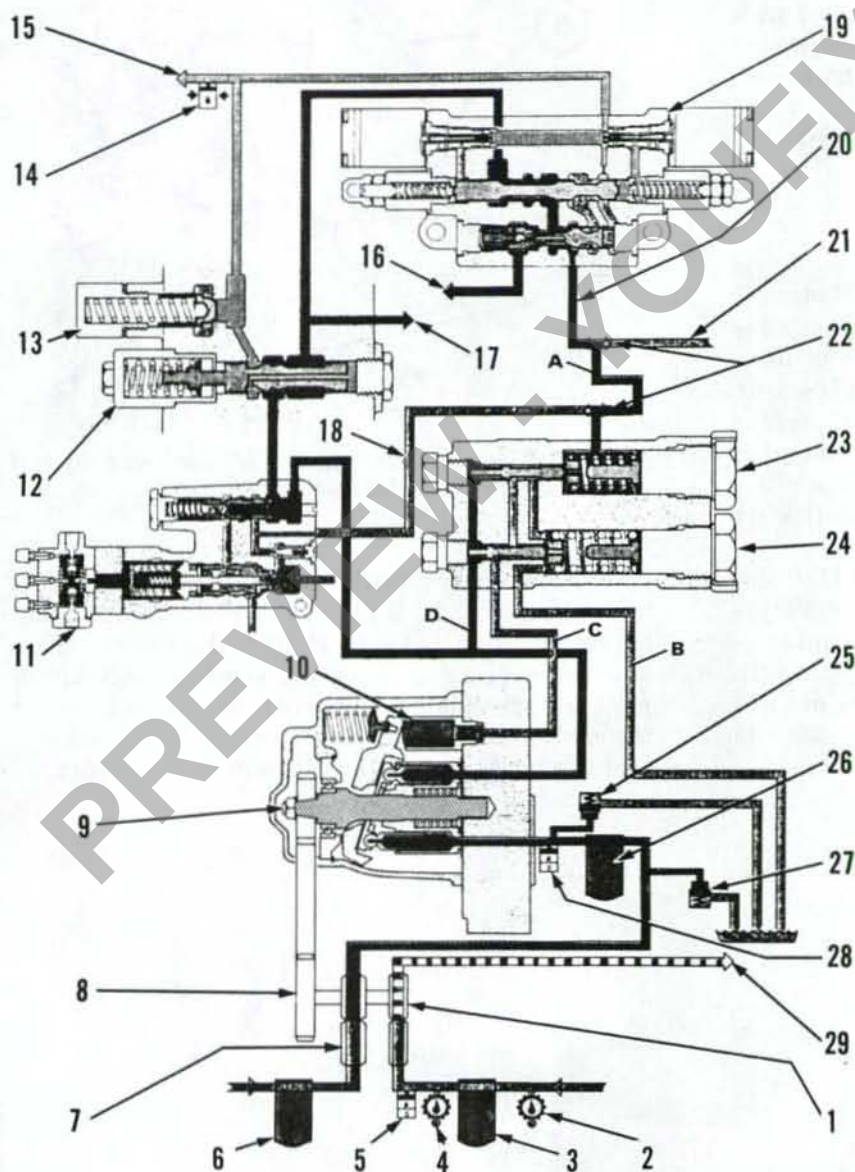

Fig. 333—Hydraulic circuit schematic for tractors with variable displacement piston pump and electronic draft control.
241. The hydraulic pump assembly consists of a variable displacement piston type pump (9—Fig. 333) and two fixed displacement gear type pumps. Gear pump (1) supplies oil for operation of hydrostatic steering, transmission and pto lubrication circuits. Gear pump (7) supplies charge oil at a pressure of 160-345 kPa (23-50 psi) to the variable displacement piston type pump. The piston pump supplies oil for hydraulic lift assembly, remote control valves and the